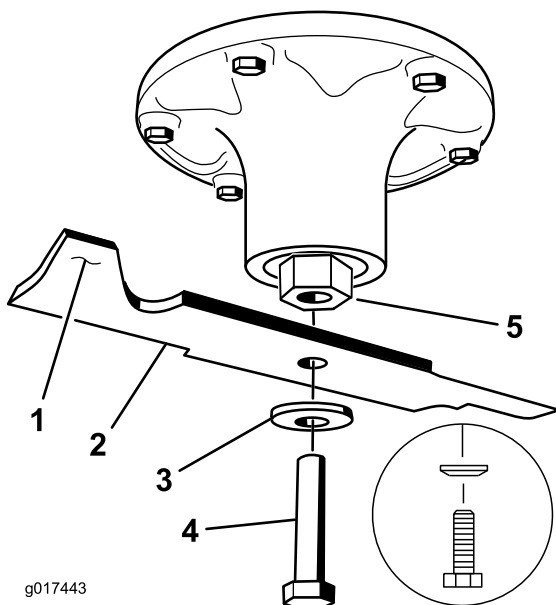

Figure 80
2. Remove the blade bolt, curved washer, and blade from the spindle shaft (Figure 80).
1. Install the blade onto the spindle shaft (Figure 80).
2. Install the curved washer and blade bolt (Figure 80).